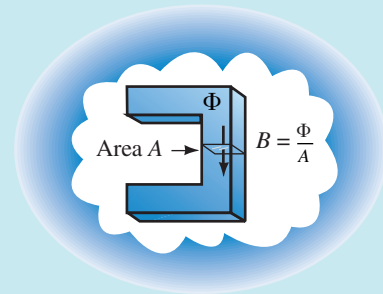

FIGURE 12–24
2. From the B - H curve (cast iron), Figure 12–19, $H = 1550$ At/m.